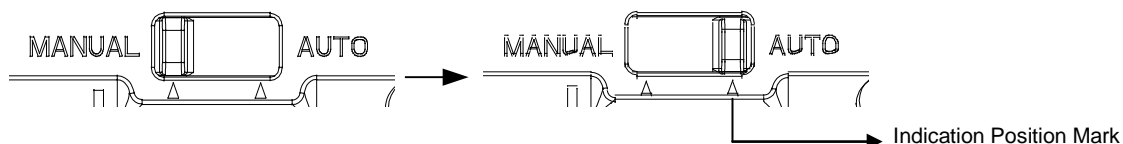

Figure 2-13 Switching Toggle from MANUAL to AUTO
2. Move the auto/manual toggle switch from 'MANUAL' to 'AUTO' Position, as shown in Figure 2-13.